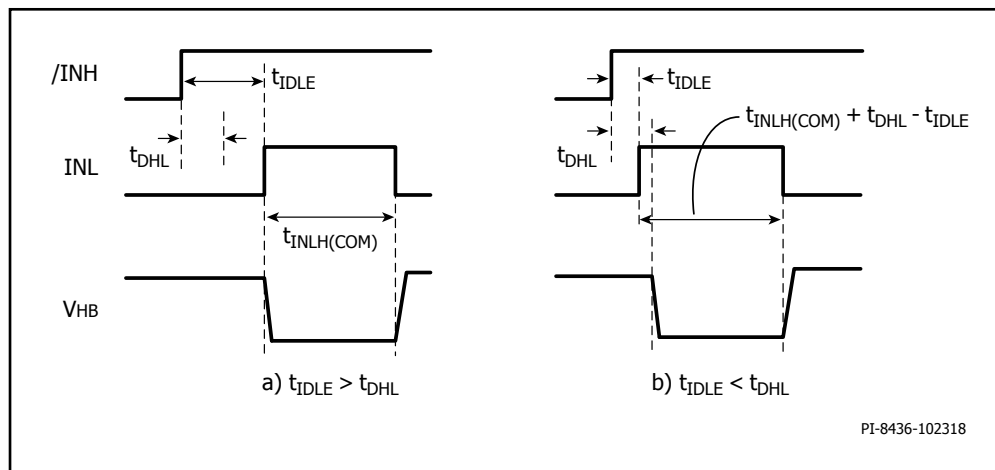

Figure 24. Minimum INL High Time Required for Device Internal High-Side Status Update a) $t_{IDLE} > t_{DHL}$ b) $t_{IDLE} < t_{DHL}$.
- Assumes control input /INH was high for an idling period of $t_{IDLE} > t_{DHL}$. The required minimum INL high time for internal communication increases by $t_{DHL} - t_{IDLE}$ if $t_{IDLE} < t_{DHL}$ (refer to Figure 24).